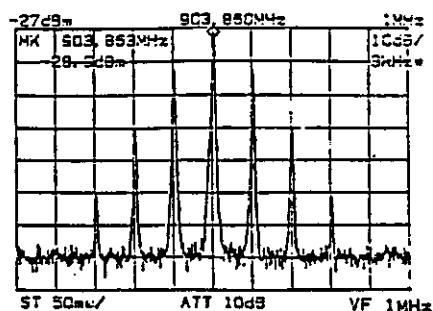

Figure 5-14 Measurement of FM Wave When Modulation Frequency Is High
- ② Set the carrier frequency to the center frequency.
- ③ Set the frequency span to a value lower than 10 times of the modulation frequency.
- ④ Put the marker on the peak of the carrier and keep recording the marker frequency at this time (Figure 5-14).